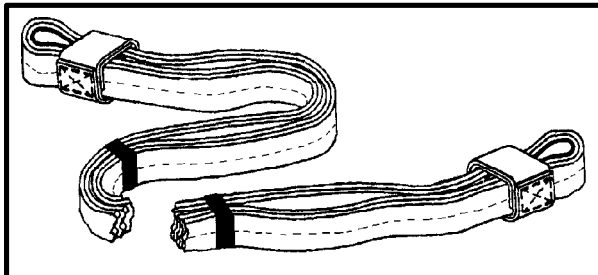

Figure 6-30. Two-Loop, Type XXVI Multi-loop Line
**b. Type XXVI Nylon Multi-loop Lines.** The Type XXVI nylon multi-loop lines are available in 3-, 9-, 11-, 12-, 16-, and 20-foot lengths (Figure 6-30). Each multi-loop line is constructed of two or four concentric loops. Three- or six-loop 60-foot and two- or six-loop 120-foot Type XXVI nylon multi-loop lines are also available. See Appendix B for NSN information.